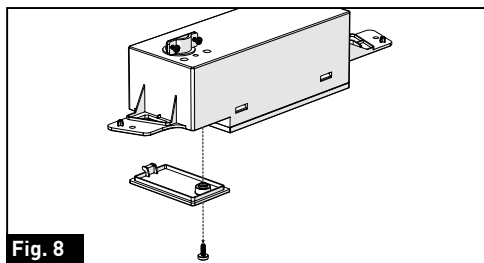

Fig. 8
- Remove the cable compartment cover using a Phillips screw driver. (Fig. 8)